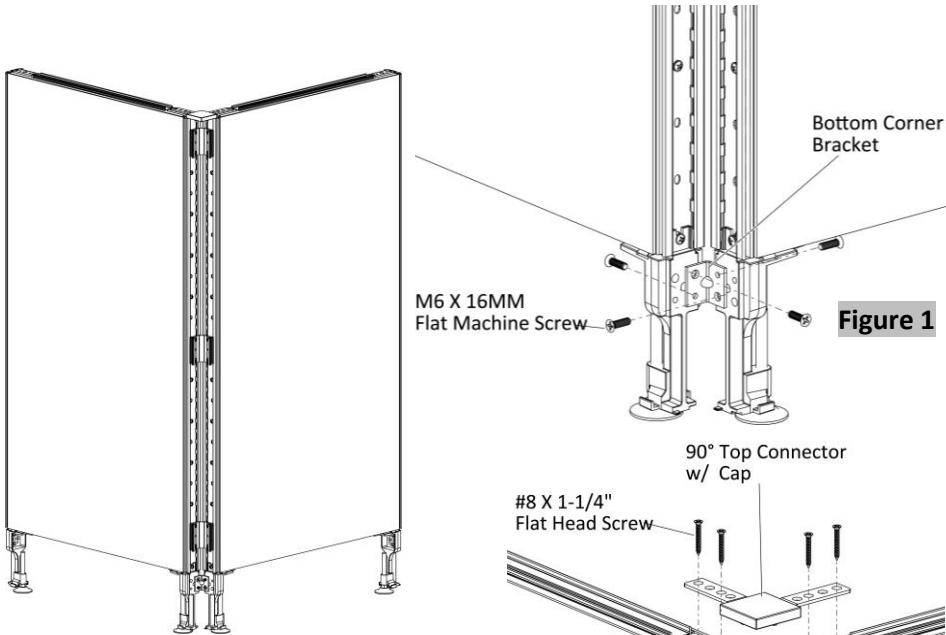

Figure 1
- 2. Securely fasten the bottom corner bracket into the panel legs with four M6 X 16MM Flat Machine Screws, (Figure 1).
2. Securely fasten the bottom corner bracket into the panel legs with four M6 X 16MM Flat Machine Screws, (Figure 1).